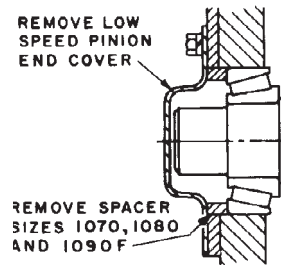

Figure 1-
1. **DRIVE SIZES 1020 THRU 1060** — Figures 1, 2 and 3. For Sizes 1040 and 1050, press the dowel pin into the backstop cage before proceeding.
- A. Remove and discard the low speed pinion end cover located below the low speed shaft, Figure 1. Remove old gasket material from the low speed retainer. Do not disturb the fasteners located around the low speed shaft; four on Size 1020 and five on Sizes 1030 thru 1060.
2. **DRIVE SIZES 1070 & 1080** — Figures 1 & 4.
- A. Remove and discard the low speed pinion end cover and spacer located below the low speed shaft, Figure 1. Remove old gasket material from the low speed retainer. Do not disturb the six fasteners located around the low speed shaft.
**3. DRIVE SIZE 1090 — Figures 1 & 5.**
- A. Remove and discard the low speed pinion end cover and spacer located below the low speed shaft, Figure 1. Remove old gasket material from the housing surface.